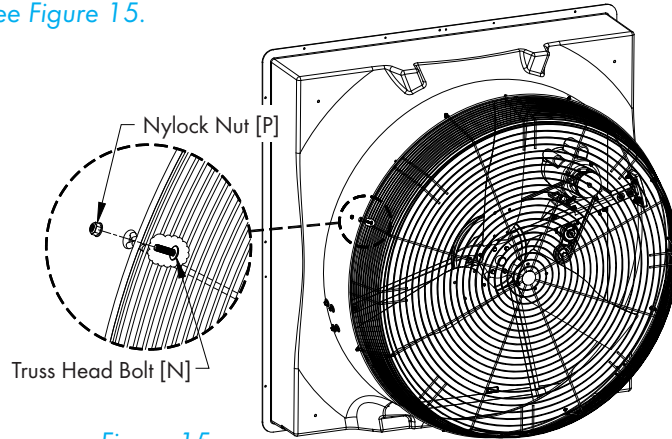

Figure 15
If the fan came with an outlet guard instead of a cone, slide the guard over fan orifice and secure to fan using (8) Truss Head Bolts [N] and Nylock Nuts [P] with the head of the bolt on the inside of the orifice and the nut on the outside. See Figure 15.